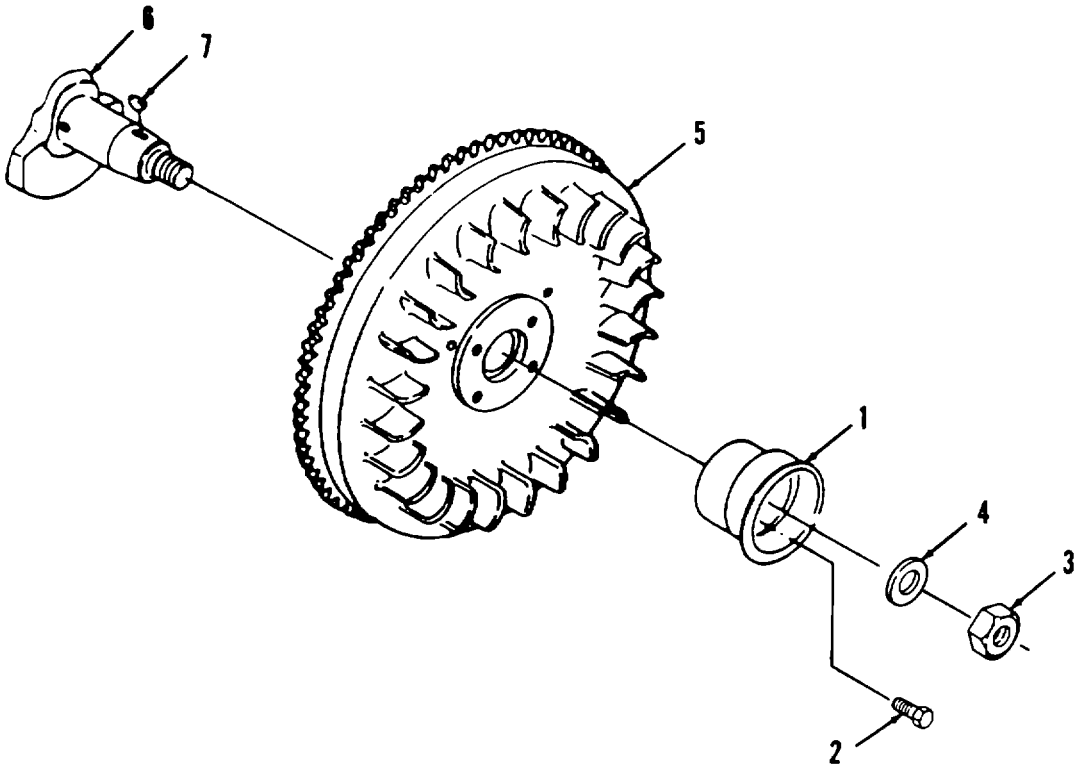

Figure 5-11. Flywheel Replacement.
a. Removal. (Refer to Figure 5-11).
- (1) Remove starter pulley (1) by removing three bolts (2).
- (2) Brace the flywheel (5) to prevent the flywheel from turning while loosening the flywheel nut (3) by inserting a pry bar through a hole in the flywheel into the depression in the crankcase.
- (3) Remove flywheel end nut (3) and washer (4) from crankshaft (6).
- (4) Using a puller, remove flywheel.